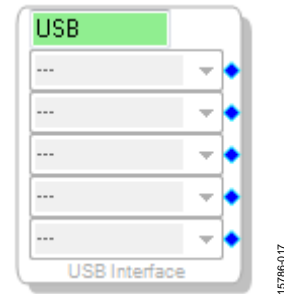

Figure 17. USBi Detected by SigmaStudio
- a. When SigmaStudio detects the USBi, the background of the **USB** label is green in the **USB Interface** box (see Figure 17).